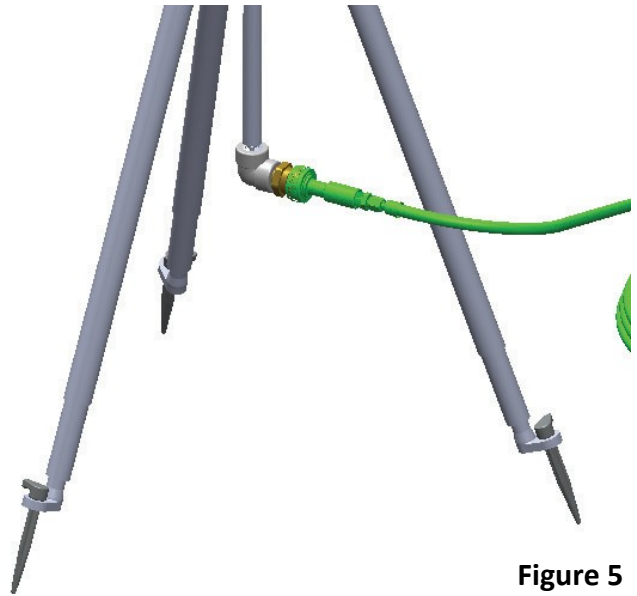

Figure 5
- 5) Connect tank evacuation adapter to the flare stacks filler style valve. **Torque: Fully Seated Not Stripped, Not Leaking Figure 5**